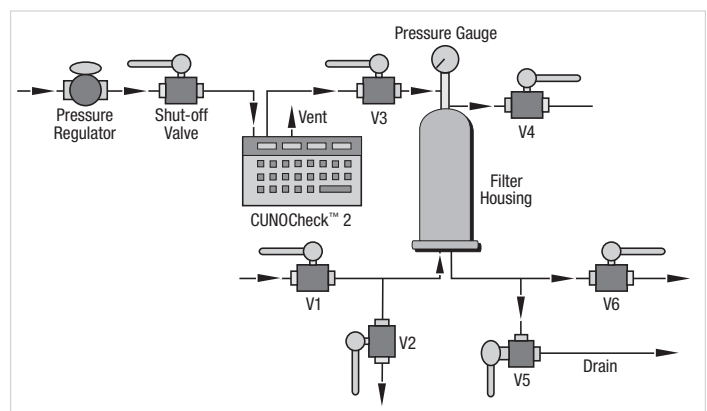

Figure 6. PHT (automated method).
The CUNOCheck™ 2 Automated Integrity Tester can be used to perform a PHT. When using the CUNOCheck 2, follow the installation instructions for connecting the unit to the upstream valve as shown in Figure 6. Consult the appropriate 3M Purification Inc. literature for the test pressure and PHT value for the filter cartridge to be used or calculate the maximum allowable value using the following equation. Program these values into the CUNOCheck 2 Automated Integrity Tester when requested during the test set-up.
### 3. Procedure (Automated Test — Figure 6)
- A. Configure the system as shown in Figure 6.